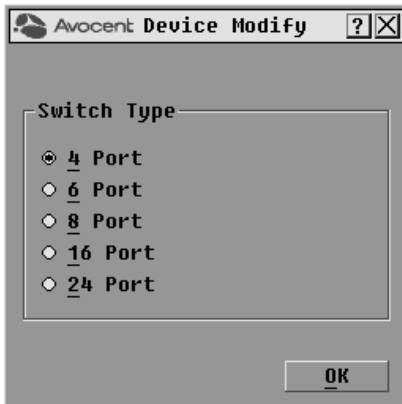

Figure 3.15: OSCAR Interface Device Modify Dialog Box
2. Click *Modify* to open the Device Modify dialog box shown in Figure 3.15.